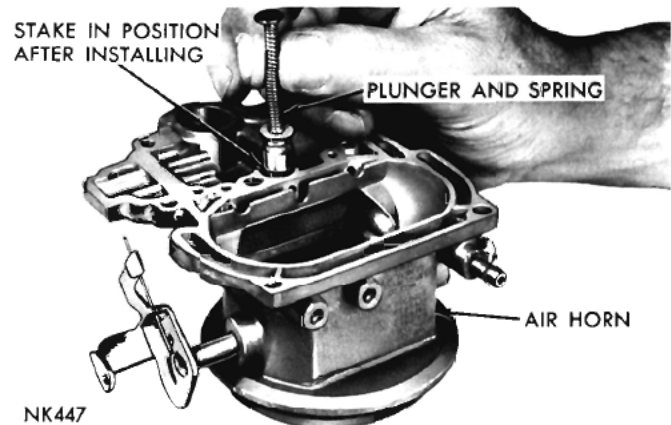

Fig. 16—Installing Vacuum Power Piston
(4) Install the vacuum power piston and plunger in the air horn, as shown in (Fig. 16). Lock in position by prick punching on the retaining rim. Compress the piston plunger to be sure no binding exists. If the piston sticks or binds enough to hinder smooth operation, install a new piston assembly.
(5) Slide a new air horn gasket over accelerator pump plunger, and down against air horn. Now, lower air horn straight down on main body, with the accelerator pump plunger sliding into its well. (Be sure the leather on the pump does not curl or fold back.) Install air horn retaining screws and lockwashers, then tighten securely.
(6) Install the accelerator pump and fast idle connector rods, then work the accelerator pump plunger several times, to be sure it operates freely.